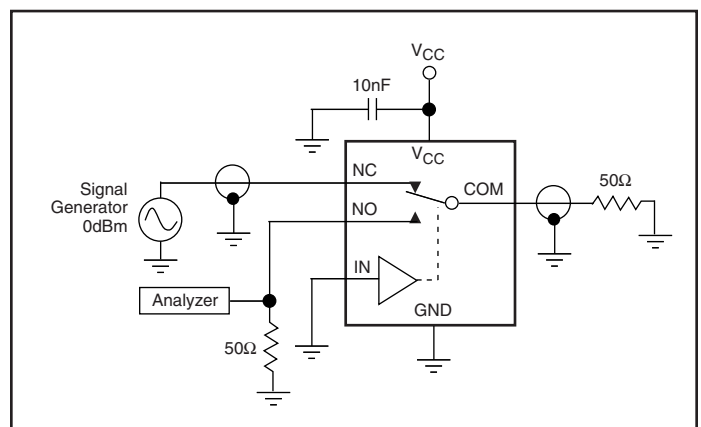

Figure 4. Crosstalk
- Off Isolation = 20log10 [ VCOM / (VNO or VNC) ]. See Figure 4.